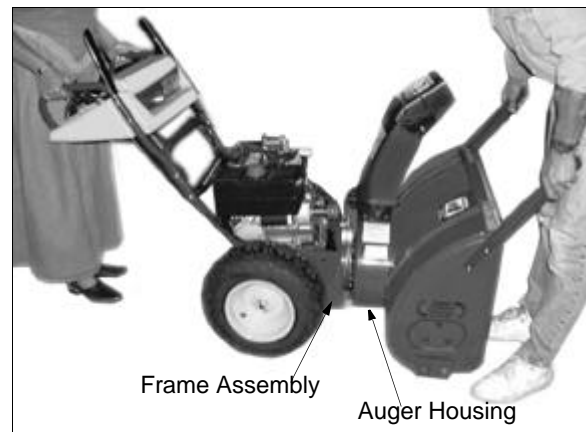

Figure 21
8. While lifting up on the handles, bring the frame assembly close to the auger housing, and place the two belts on the front and rear engine pulleys. See Figure 21.